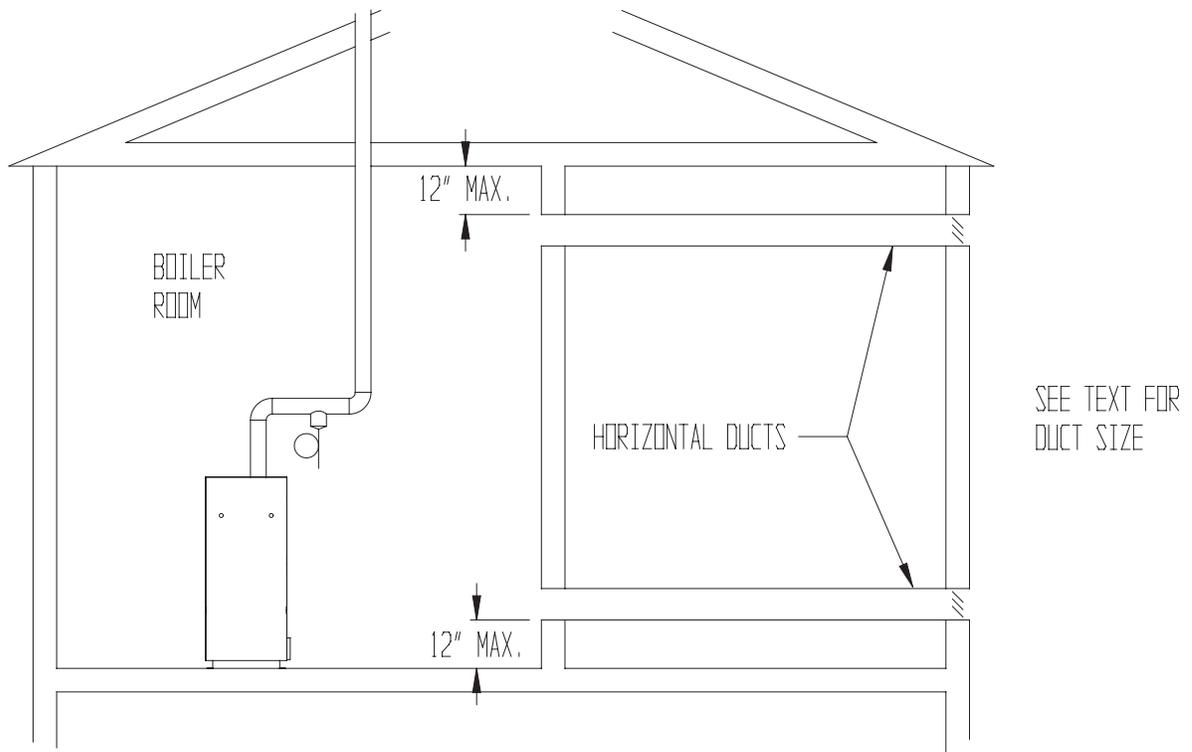

FIGURE 5.5: ALL AIR FROM OUTSIDE USING HORIZONTAL DUCTS INTO BOILER ROOM
- Openings to outdoors via horizontal ducts (Fig 5.5) - Each opening must have a free cross sectional area of 1 square inch per 2000 BTU/hr of the total input of all gas fired appliances in the boiler room but not less than 100 square inches. Minimum opening size is 3 inches.